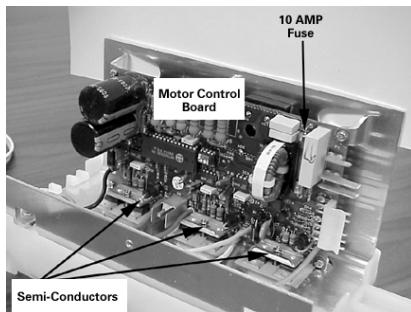

Figure 4-7
a. Check the 10 amp fuse located on the control board, either visually or with an ohm meter. If bad, replace motor control/wire harness assembly completely. (*Figure 4-7*)